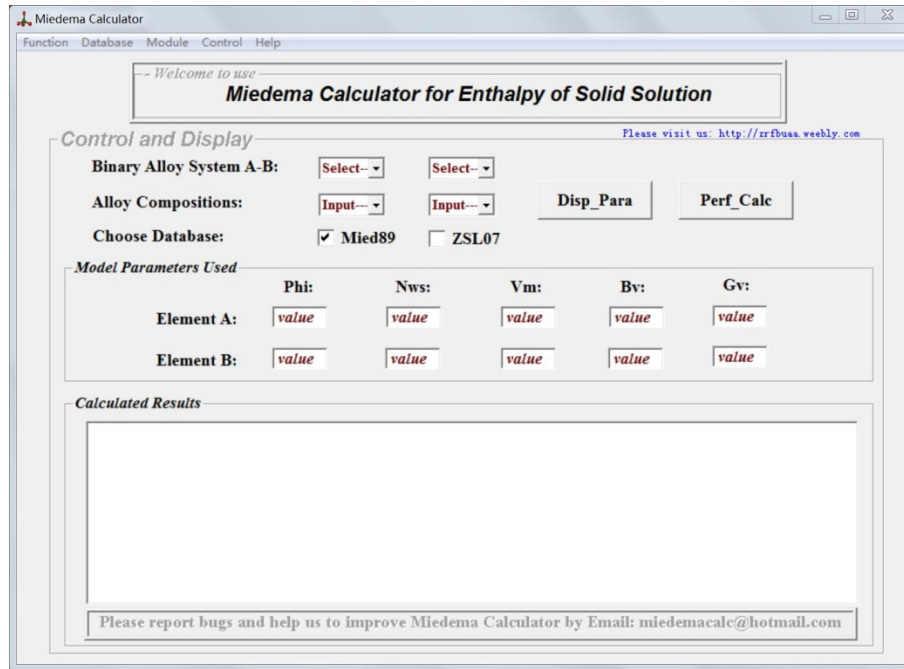

Fig. 4.3. The module interface for the formation enthalpies of statistical solid solutions.
Fig. 4.3 presents the module interface for the formation enthalpies of statistical solid solutions. The chemical enthalpies, elastic mismatch enthalpies and structural enthalpies based on Miedema's model and Alonso's model are supported in this module. For the calculation of formation enthalpies of binary concentrated solid solutions:
- 2) In menu, choose "Module"-> "Formation enthalpy of solid solution" to launch the module interface (see Fig. 4.3);